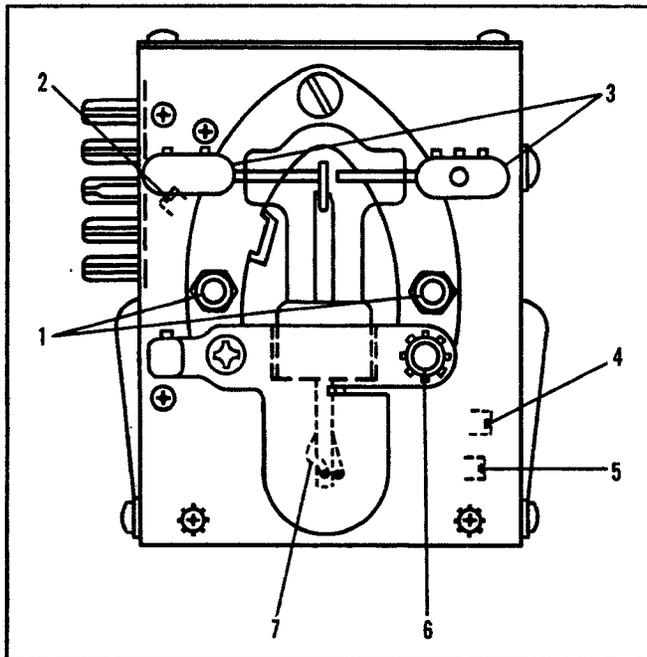

Figure 5-11. Keying Relay K102 and Vacuum Contact S116
(1) Loosen the setscrews that hold the connecting wires to the fixed contact terminals (No. 3 in fig. 5-11), and remove the wire connector.
(2) Loosen the stud (No. 6 in fig. 5-11) until the clamp around the base of the vacuum contact becomes loose enough to allow the removal of the glass vacuum tube. Remove the tube containing the switch by pulling glass tube straight up.
(3) Note the split collar on end of glass operating arm that connects vacuum contact to relay case. Loosen setscrew in this collar so that collar is loose on its shaft.
(4) Before attempting to install the new vacuum switch, note the manner in which the movable switch arm (extending out of bottom of glass bulb) engages the wire actuating arm (No. 7 in fig. 5-11). When installing the new switch, the arm of the switch must be securely engaged between the two wires that form the actuating arm (No. 7 in fig. 5-11). To prevent damage to the new switch, it is recommended that the two wires forming the actuating arm, be spread apart very slightly while the vacuum switch arm is being engaged. This may be accomplished by using a screw driver blade to spread the wires approximately 1/32".
(5) Place rubber gasket in position and insert new vacuum switch in socket. Be sure movable switch arm is securely engaged in wires of operating arm No. 7.
(6) Retighten stud (No. 6 in fig. 5-11) and reconnect wires to terminals labelled No. 3 in figure 5-11.
(7) With relay in normal unoperated position, the vacuum contact (in glass bulb) should be closed and resting firmly against the fixed contact that is connected to RECEIVER terminal of transmitter. To se-
(8) The timing adjustment of the vacuum contact can now be made. Remove top cover of keying relay case by taking out two Phillips screws on the top surface.
(9) Examine the interior of the relay and note double row of contacts near top. Also note that movable contact arms are all attached to a thick bakelite plate located in the center of the case. By using a thin tool, with a notch in one end, that is capable of straddling this bakelite plate, it is possible to grip the bakelite and operate the relay mechanically by pushing the plate from side to side. Note that as this bakelite plate is moved, all movable contact arms in the relay as well as the movable arm in the vacuum contact will also move.
(10) With the relay in the normal "rest position," three internal relay contacts, on the side nearest the plug, are closed and the vacuum contacts (in external glass bulb) should now be resting firmly against the fixed contact that connects to the RECEIVER terminal on the side of transmitter case.
(11) If vacuum contact is not set properly, loosen two studs (labelled No. 1 in fig. 5-11) that hold horseshoe shaped yoke to relay case.
(12) Note adjustment screw (labelled No. 2 in fig. 5-11) that can be seen through hole on plug side of case. By rotating this screw, the position of the movable arm in the vacuum contact can be adjusted as desired.
(13) After vacuum contact has been adjusted to correct position while relay is in rest position, the relay should then be operated mechanically (as described in step No. 9) and the action of the vacuum contact and the 5 normally open contacts on the interior of the relay case should be noted.
(14) As the relay is operated mechanically, the correct sequence of contact make and break is as follows:
(15) If above sequence is not obtained, further adjustments of screw labelled No. 2, in figure 5-11 is
(16) After adjustment has been completed, retighten two screws labelled No. 1 in figure 5-11.